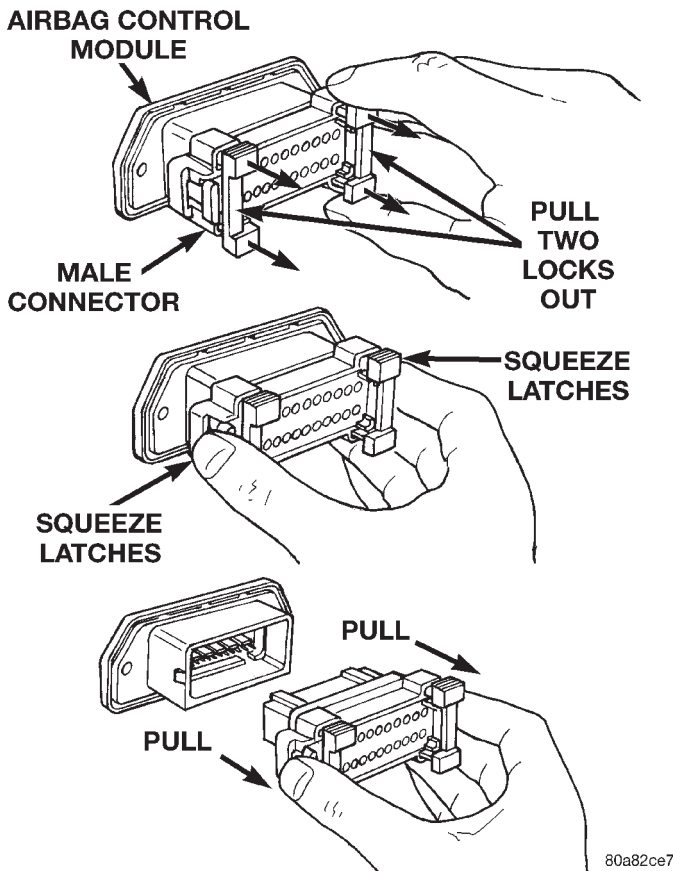

Fig. 12 Airbag Control Module Connector Removal
(3) Remove the screw that secures the instrument panel wire harness ground eyelet to the left side of the floor panel transmission tunnel.
(4) Unplug the Airbag Control Module (ACM) wire harness connector. To unplug the wire harness connector from the ACM, pull the two white locks out about 3 millimeters (0.125 inches) from each side of the connector (Fig. 12). Squeeze the two connector latch tabs between the thumb and forefinger, while pulling the connector out from the ACM.